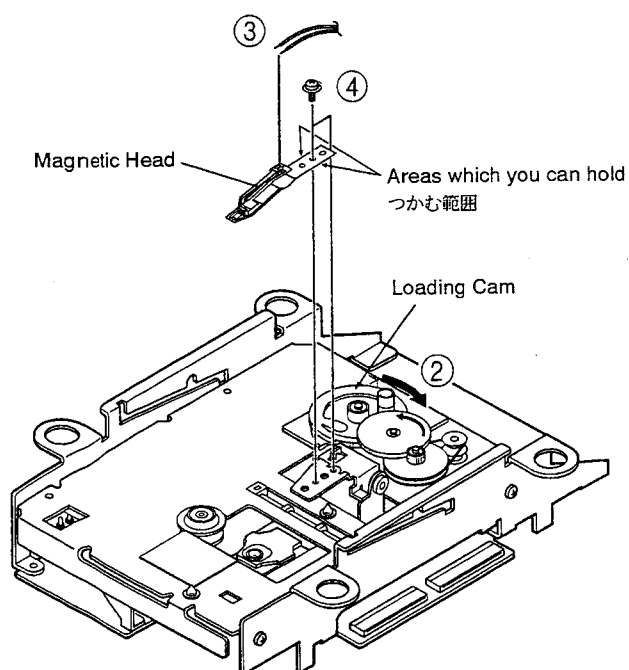

Fig. 2-4
2-3. Replacing the Magnetic Head (Refer to Figs. 2-4 and 2-5)
- * As the magnetic head is liable to deform, hold it on the portion where the reinforcement plate is provided. (See Fig. 2-4.)
2-3. 磁気ヘッドの交換 (図2-4, 2-5参照)
- * 磁気ヘッドは変形しやすいので、手でつかむときは補強板の付いた部分をつかむようにすること。(図2-4参照)